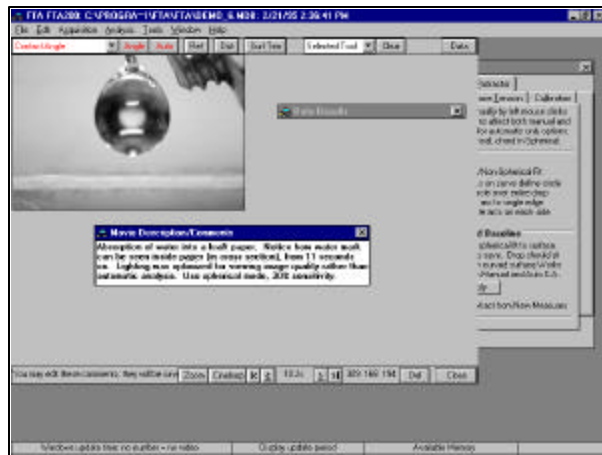

Figure 3. Beginning of absorption run.
**Dynamic Measurements.** We will now open a movie containing a number of images and graph the data as it changes in time. Open demo\_6.mdb. This shows water absorbing into kraft paper. The contact angle and drop volume change as a function of time. The first image, Figure 3, shows the pendant drop before it detaches from the dispense tip and settles on the sample.